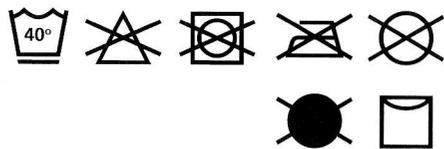

fig. 32
- 1 We recommend washing your cleaning pockets separately from other fabrics to avoid picking up lint. For optimal cleaning performance pockets may need to be washed up to (3) three times. Only use liquid detergent (no powder detergent). Don't use any fabric softeners or bleach. Line dry. Do not tumble dry. (fig. 32)